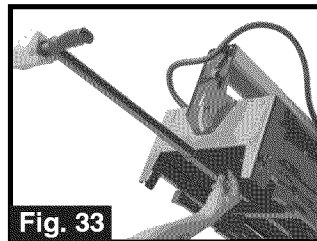

Fig. 33
- Once your saw is folded up, you can easily move your saw with the double handle. To use the double handle, loosen the knob holding it in place (Fig. 33), and extend it to its full length by pulling it from the saw table base.